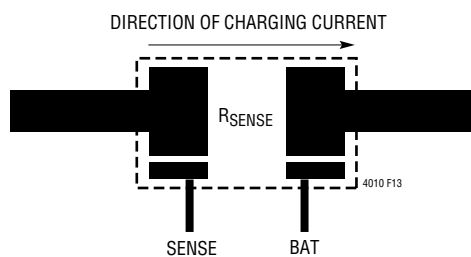

Figure 13. Kelvin Sensing of Charge Current
- For best current programming accuracy, provide a Kelvin connection from R_{SENSE} to SENSE and BAT. See Figure 13 for an example.